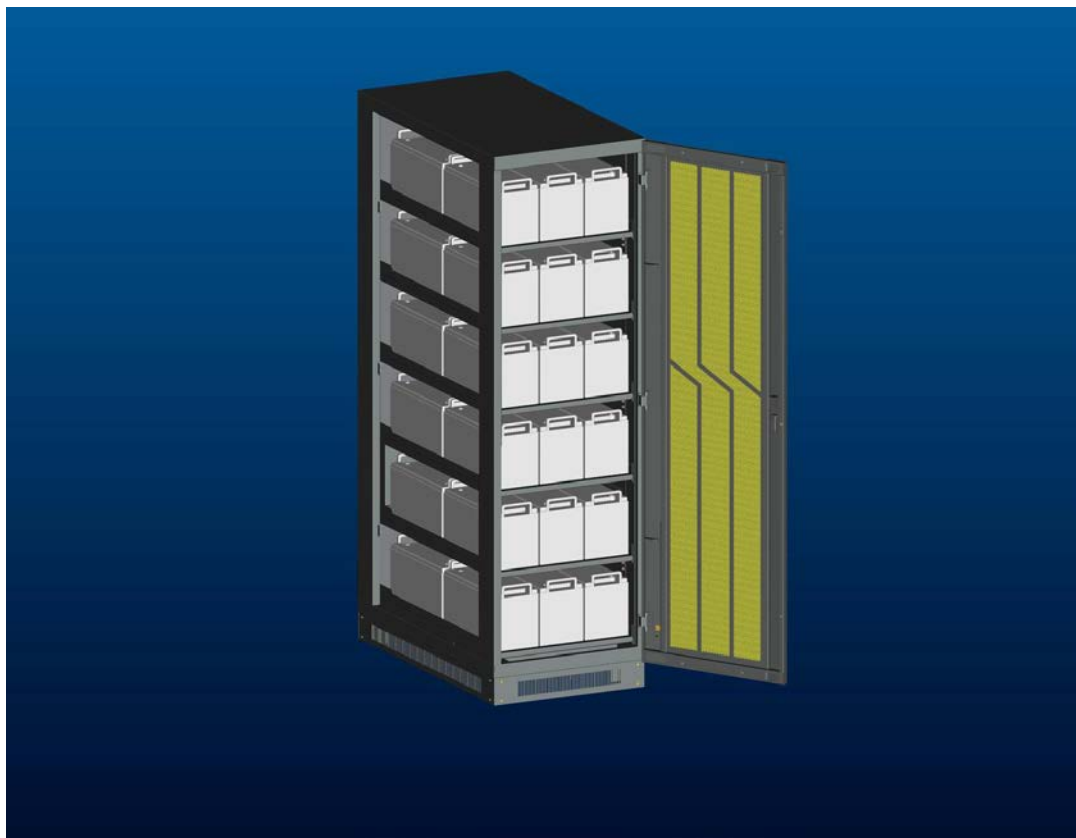
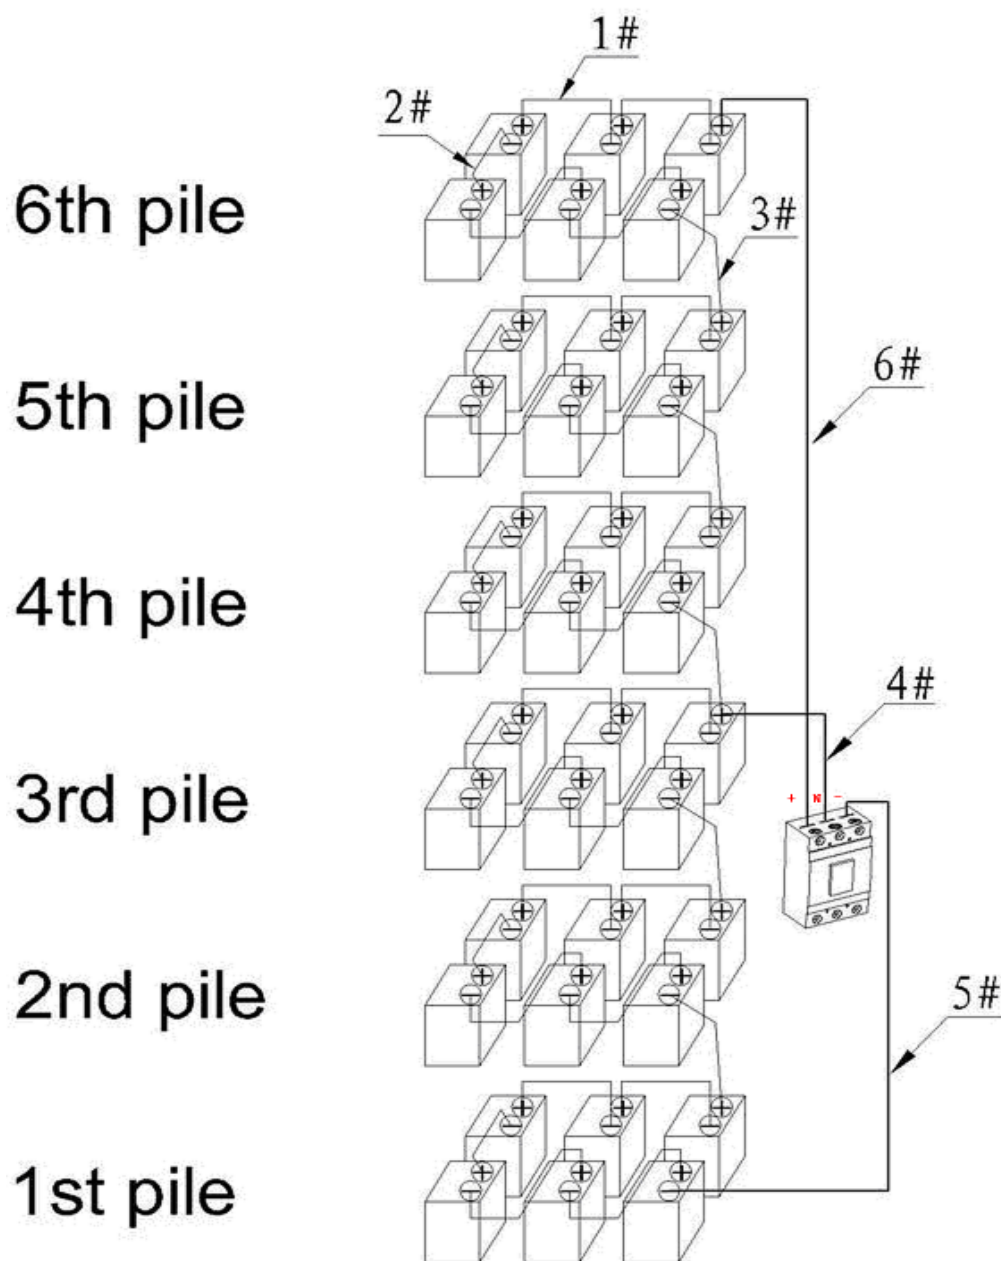

Figure 5
Figure 6
2.4 Then, install the battery bases of the 2nd, 3rd, 4th, 5th and 6th one by one in the cabinet and put the batteries (The battery direction is the same with the first layer). Finally, check that the battery connection of all the 6 layers is completed according to the Fig.6. As the Fig.5 shows:
2.5 After finishing the battery connection, a cable from the BAT+ of the 6th layer goes to the **breaker “+”(BAT+)**, another cable from BAT+ of the 3rd layer(the 18th bat+) goes to the **breaker “N”(BATN)**, the last cable from BAT- of the 1st layer goes to the **breaker “-” (BAT-)**. Shown in Fig.6.